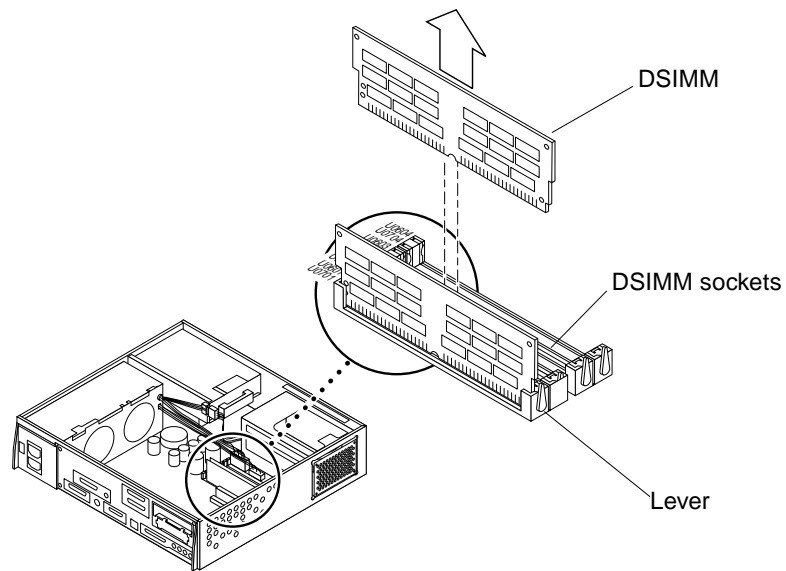

Figure 2-9 Removing a DSIMM
1. Locate the DSIMM to be removed (Figure 2-9).